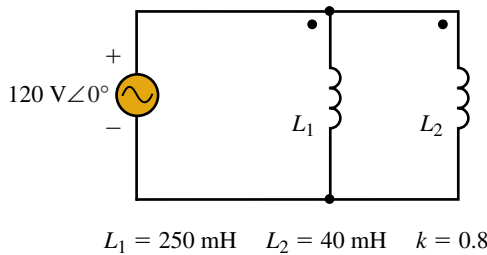

FIGURE 24-79 Coupled parallel inductors.
37. The inductors of Figure 24-79 are mutually coupled. What is their equivalent inductance? If $f = 60$ Hz, what is the source current?
- 44. **PSpice** Using PSpice, solve for the source current for the coupled parallel inductors of Figure 24-79. Hint: Use XFRM_LINEAR to model the two inductors. You will need two very low-value resistors to avoid creating a source-inductor loop.